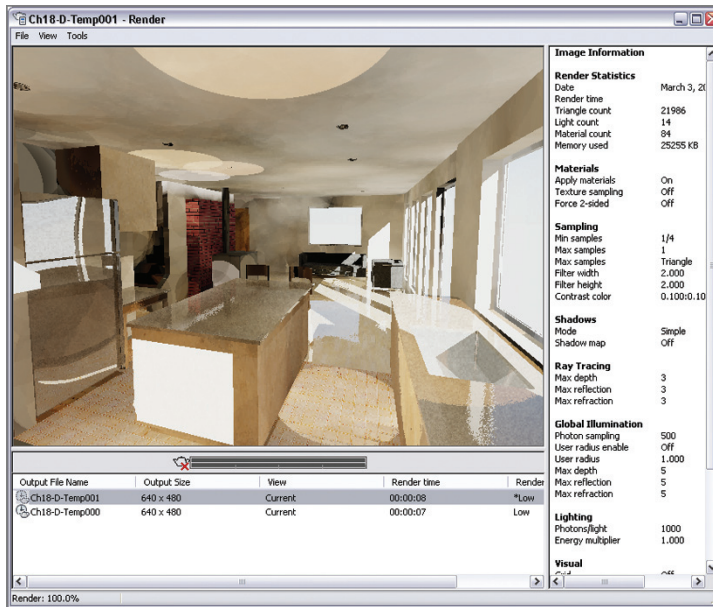

FIGURE 18.18 Global illumination bounces photons off the floor and onto the ceiling.
- Click the Render icon in the Render panel to create another test render. Figure 18.18 shows the result. The global illumination algorithm bounces photons off the floor, and this helps illuminate the ceiling. However, there aren't enough photons for a quality result.